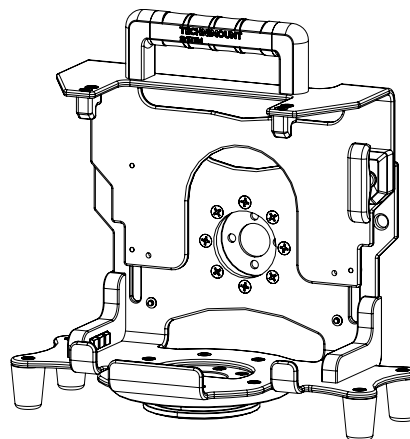

Figure 10: Unlocking and extending the BP75–FL MCD
1. Unlock and extend the BP75–FL MCD using the quick-release pin and top handle (Figure 10). Refer to the « Extend the BP75–FL MCD » section on page 18 if needed.